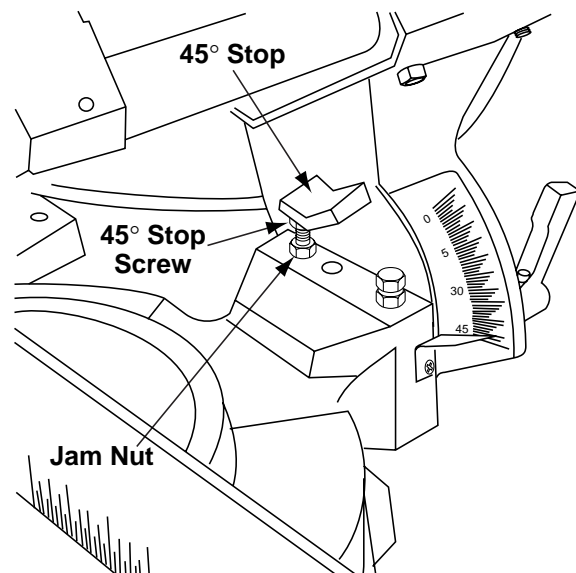

Figure 9. Bevel 45° Stop Screw and Jam Nut
- d. Adjust 45° bevel stop screw so that the hex screw head hits the 45° stop at the same time the blade makes contact with the full length of the square. Tighten 45° jam nut (Figure 9).